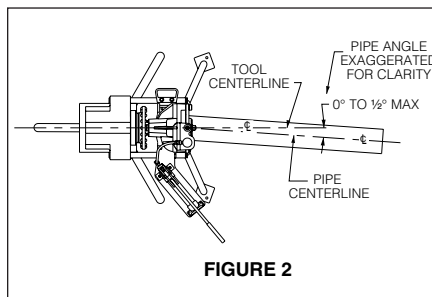

FIGURE 2
2. Position the pipe stand approximately $\frac{1}{2}^\circ$ to the left (tracking angle). See Figure 2.